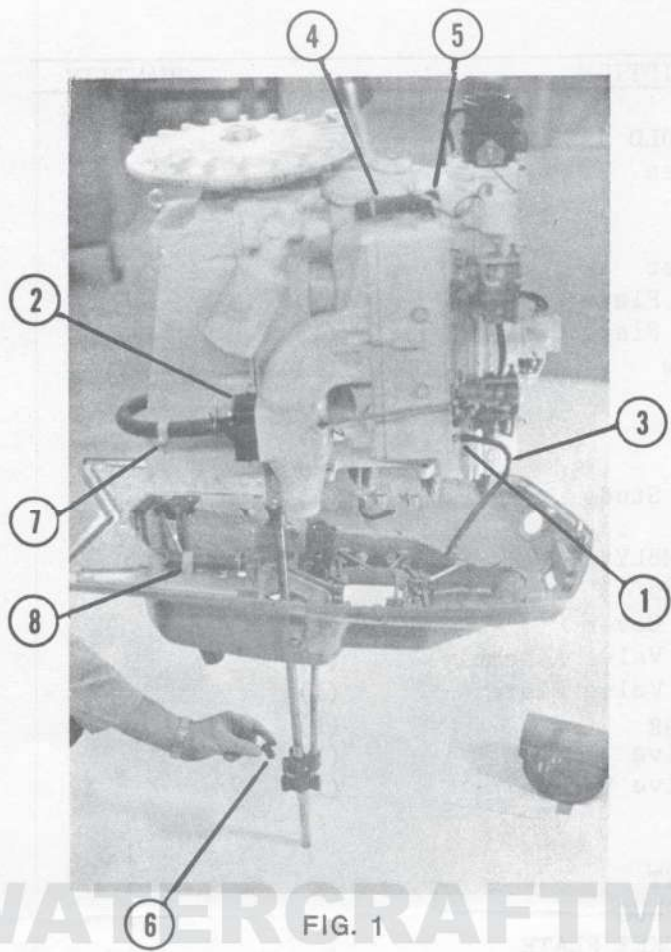
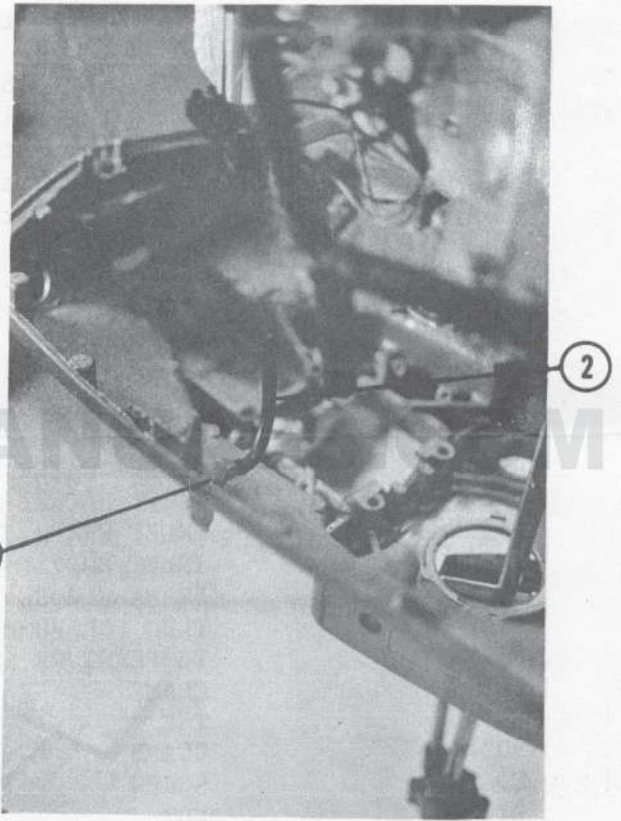
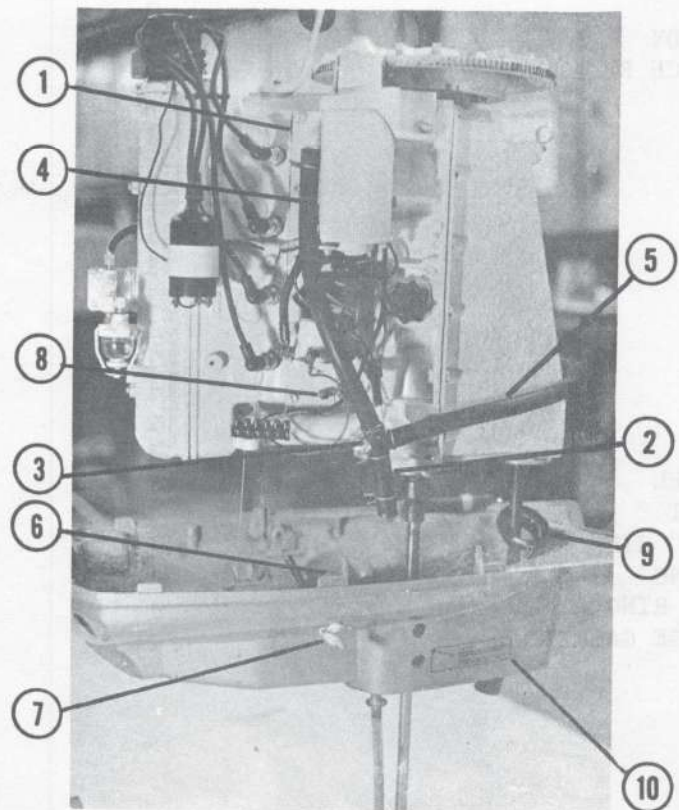

FIG. 1
FIG. 2
FIG. 3
3. Remove inlet water jacket plate and discard. Install new inlet water jacket plate, A-91534, with inlet at the top (1-Fig. 3). Use new gasket, No. 90305-A. Install parts removed from water jacket plate, and new nipple No. 90339 (8-Fig. 3) using gasket cement on threads.
13. Using template "A" placed over tab (6-Fig. 3), center punch and then drill a 17/32" hole in the mounting plate. Install drain valve, No. 91563 with the hinge toward the front (7-Fig. 3) from the outside. Using gasket cement, screw elbow No. 90341 (1-Fig. 2) into drain valve from inside the mounting plate and tighten until the threads bottom. The elbow when tightened must face toward the water jacket plate.
14. Install the long piece of the old water inlet hose (2-Fig. 3) on water inlet "Tee", No. 91545, (3-Fig. 3) and the other end to the inlet tube from the pump. This procedure is not as pictured in Fig. 3. It's easier to attach the inlet hose (4-Fig. 3) and by-pass hose (5-Fig. 3) to the powerhead later. Install inlet hose, No. 91541 (13" long), to vertical opening of the "Tee" and install by-pass hose, No. 91541, (5-Fig. 3) to the horizontal opening of the "Tee". Secure with corbin clamps.
15. Install power head, using new "O" rings provided and new oil pan boot "O" ring (9-Fig. 3). Do not install stainless steel exhaust "O" ring shield. Attach water inlet hose to water jacket inlet elbow, and by-pass hose to thermostat cover. Secure by-pass hose with clamp, No. 90381, screw No. 80039, washers No.'s 84068-1, 83096, 84003-1, and nut No. 81010-1. The clamp is shown at (7-Fig. 1) on hose, ready to attach and also at (8-Fig. 1) in position on a sample piece of hose. Attach drain hose (2-Fig. 2) to drain nipple (8-Fig. 3) and elbow (1-Fig. 2). Install telltale hose to nipple in carburetor plate (3-Fig. 1).
16. Peel backing from engine drain label, No. 91564 and place label on the mounting plate with the arrow pointing towards the drain. Keep the label 3/4" from the bottom of the mounting plate and 1/4" to the rear of the 2 power head bolts (10-Fig. 3).
COVER ALIGNING TAB (6-FIG3)